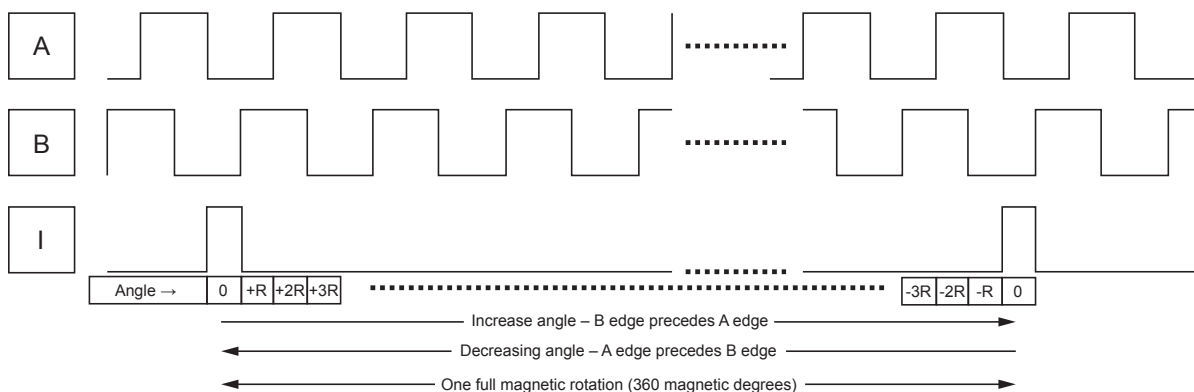

Figure 5: One Full Revolution
The AAS33051 offers an incremental output mode in the form of quadrature A/B and Index outputs to emulate an optical or mechanical encoder. The A and B signals toggle with a 50% duty cycle (relative to angular distance, not necessarily time) at a frequency of $2N$ cycles per magnetic revolution, giving a cycle resolution of $(360 / 2^N)$ degrees per cycle. B is offset from A by $1/4$ of the cycle period. The “I” signal is an index pulse that occurs once per revolution to mark the zero (0) angle position. One revolution is shown in Figure 5.